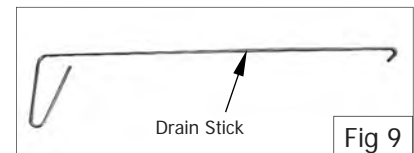

Fig 9
7. If necessary, use the drain stick (see Fig 9) to dislodge any blockages in the drain.